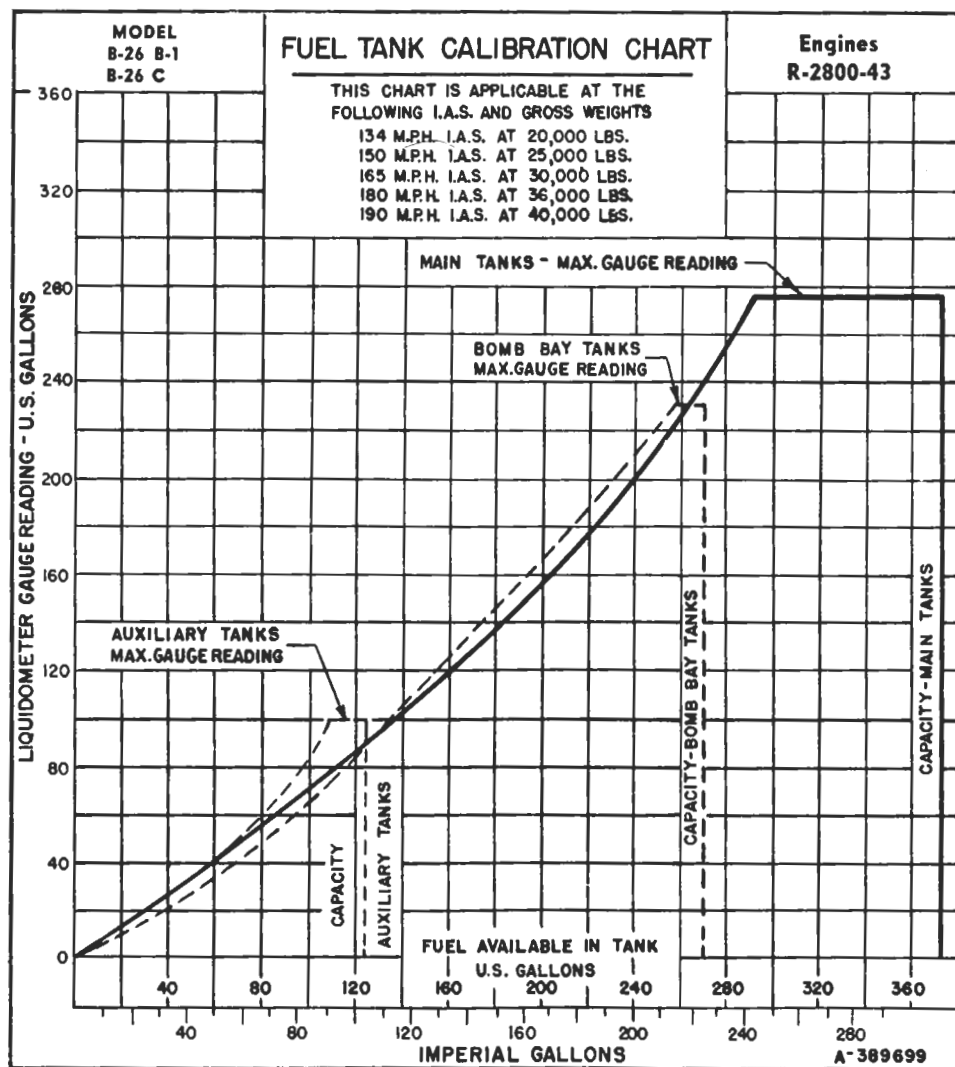

Figure 85 — Fuel Tank Calibration Chart
5. FUEL TANK CALIBRATION. (See figure 85.)